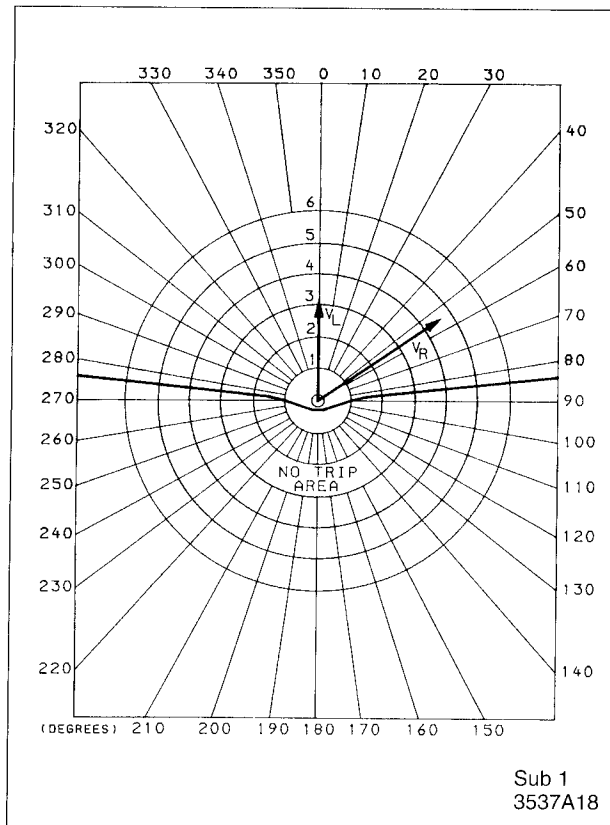

Figure 2. LCB General Operating Characteristics
The graph in Figure 2 shows the relay characteristic when the local (VL) is at three times pickup, and the remote varies in-phase and magnitude. A family of curves similar to this one could be drawn for different magnitudes of local voltage. It can be seen that the relay system will operate for small amount of outfeed at the remote terminal. This is the differential aspect of the LCB, and provides outfeed trip capability in weak terminal applications. As observed in the drawing the relay has about an 82° characteristic; that is, the two quantities can be up to 82° out-of-phase and the relay will trip for any set of magnitudes above pickup.